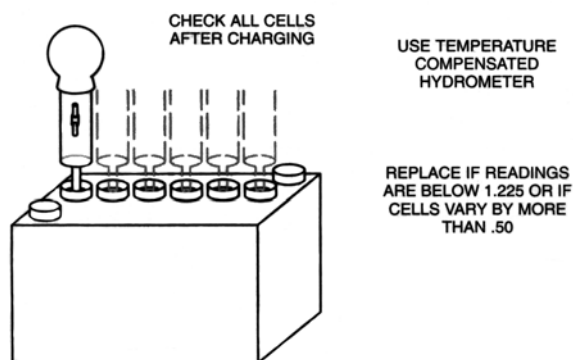

Fig. 33 - Checking 12 V Battery Cells (Lead Acid, Wet Cell, Dry Charge)
- With battery fully charged, check specific gravity readings of each cell with a Battery Hydrometer and record readings, Fig. 33. All readings should be above **1.250** (compensating for temperature). If specific gravity readings varied **.50** or if all cells read less than **1.225**, replace battery.